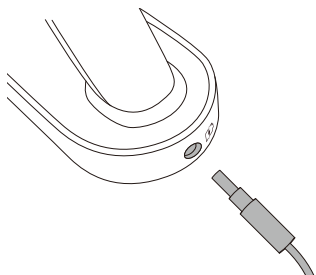

Fig. 1
2. Insert the adaptor cord into the DC jack at the end of the cleaner handle and plug the adaptor into the mains supply socket (Fig.1)